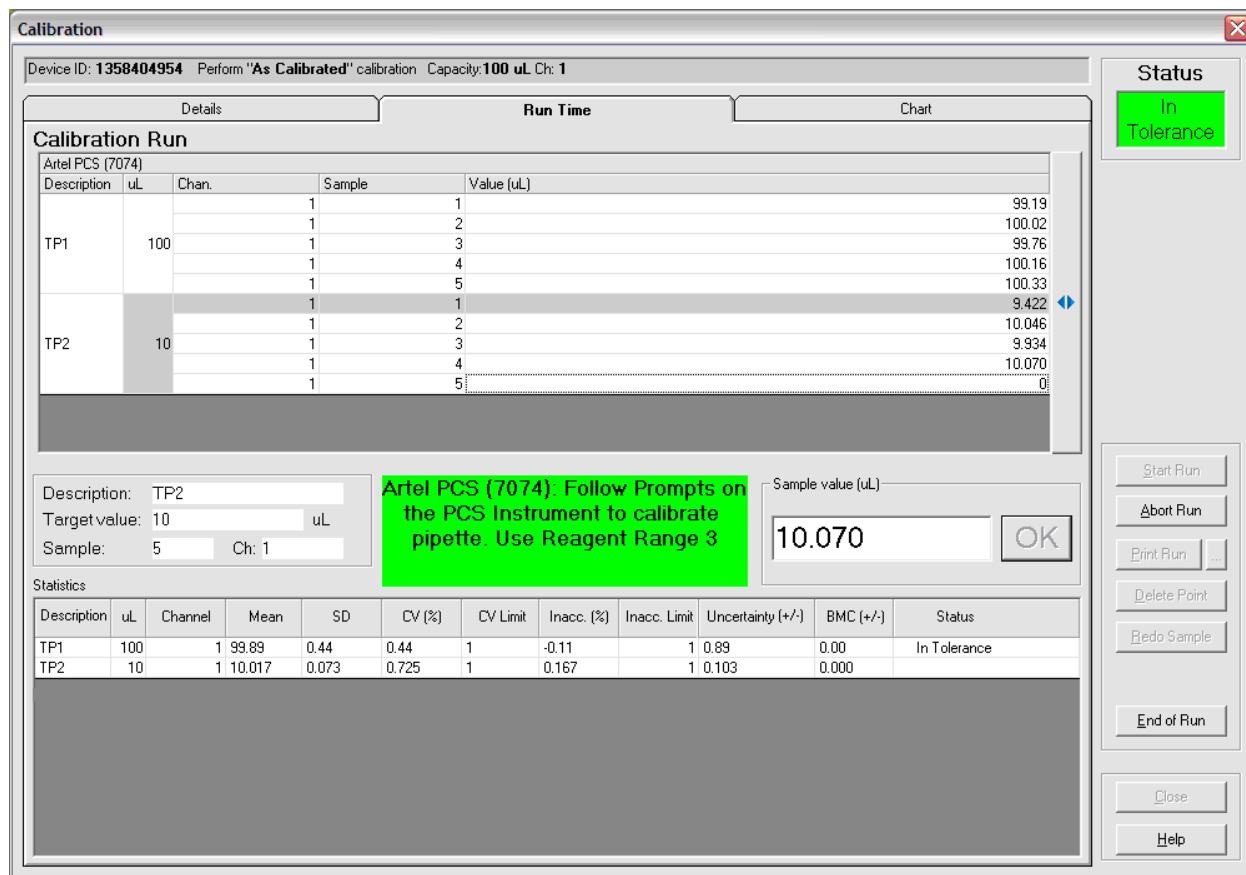

Figure 3
16. If there is a valid reason to delete a data point from the Statistics, click the Delete Point button after selecting the point in the grid. The program will prompt for a reason for the deletion. The deleted data point will still appear in the data, but it will be marked as deleted and is not included in the Statistics. (See Figure 3) To re-include a data point in the statistics, select the data point and click the Undelete Point button. The Statistics will be recalculated to include the sample. A reason must be entered each time a data point is deleted or undeleted.